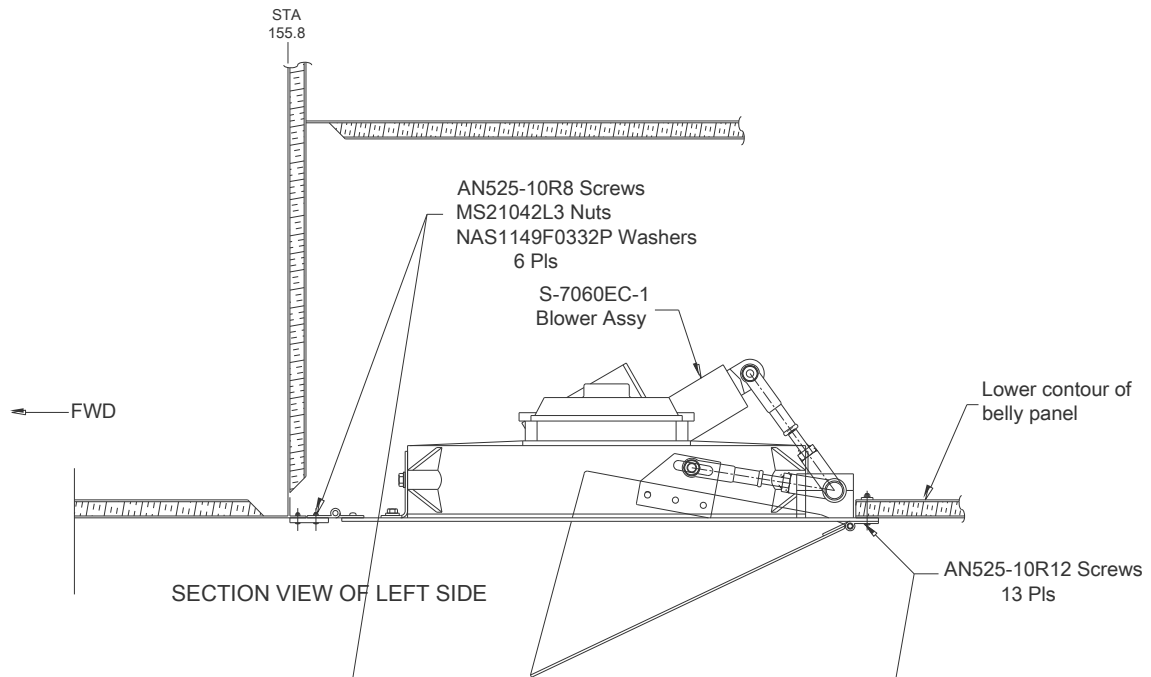
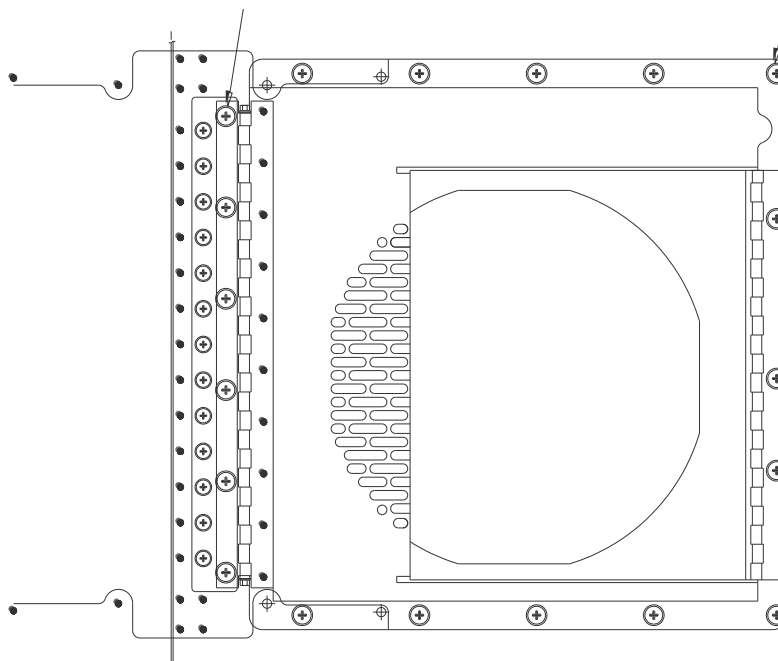

Figure 16: Condenser Install
Figure 17: Condenser Install - VIEW C-C
10. REMOVE AND REPLACE CONDENSER BLOWER ASSEMBLY (Figure 16 and Figure 17).